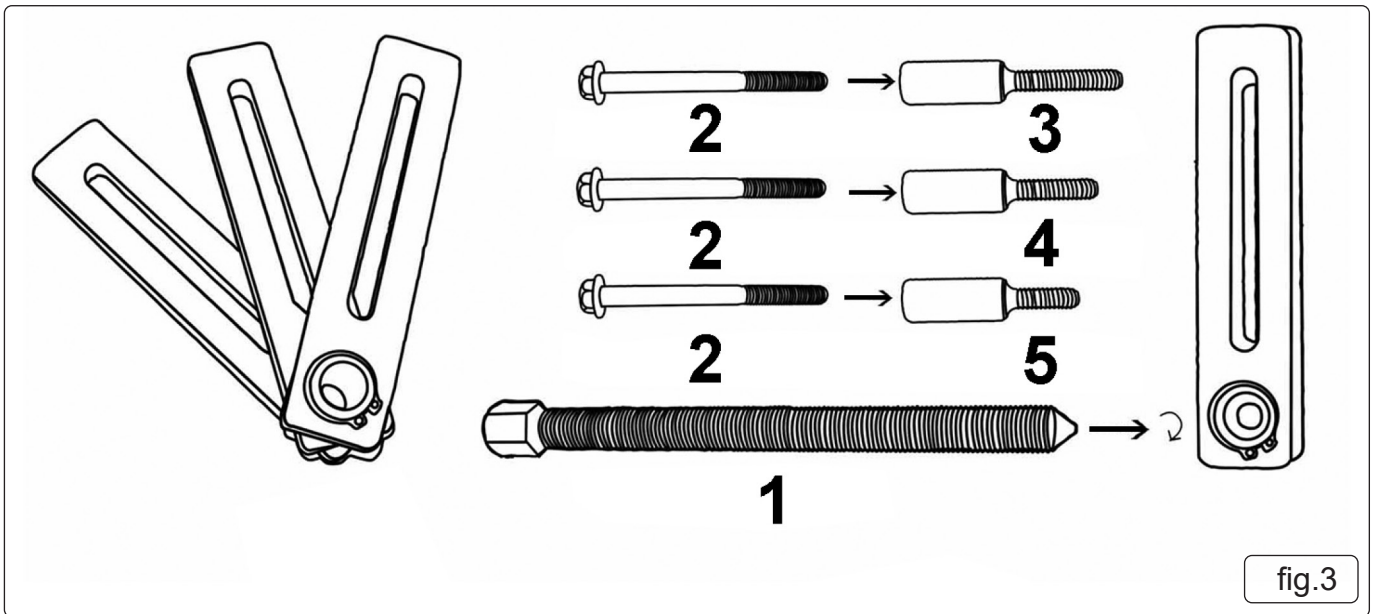

fig.3
- 4.2. Assemble the tool as shown in fig.2 and fig.3.
- 4.3. Select appropriate height M6 adaptors to ensure that the tool is level before use (see fig.3).